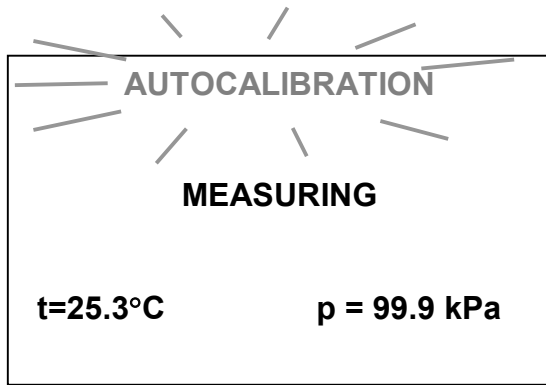
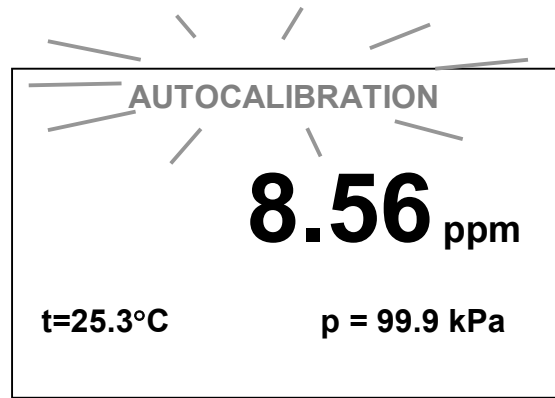

Fig. 2.3
Fig. 2.4
- 3 Remove the probe from the vessel with water and place horizontally in air (for instance, place on a table), hold for 5 min and press the key . The display shown in Fig. 2.3 shall come up, first, and then the display shown in Fig. 2.4.